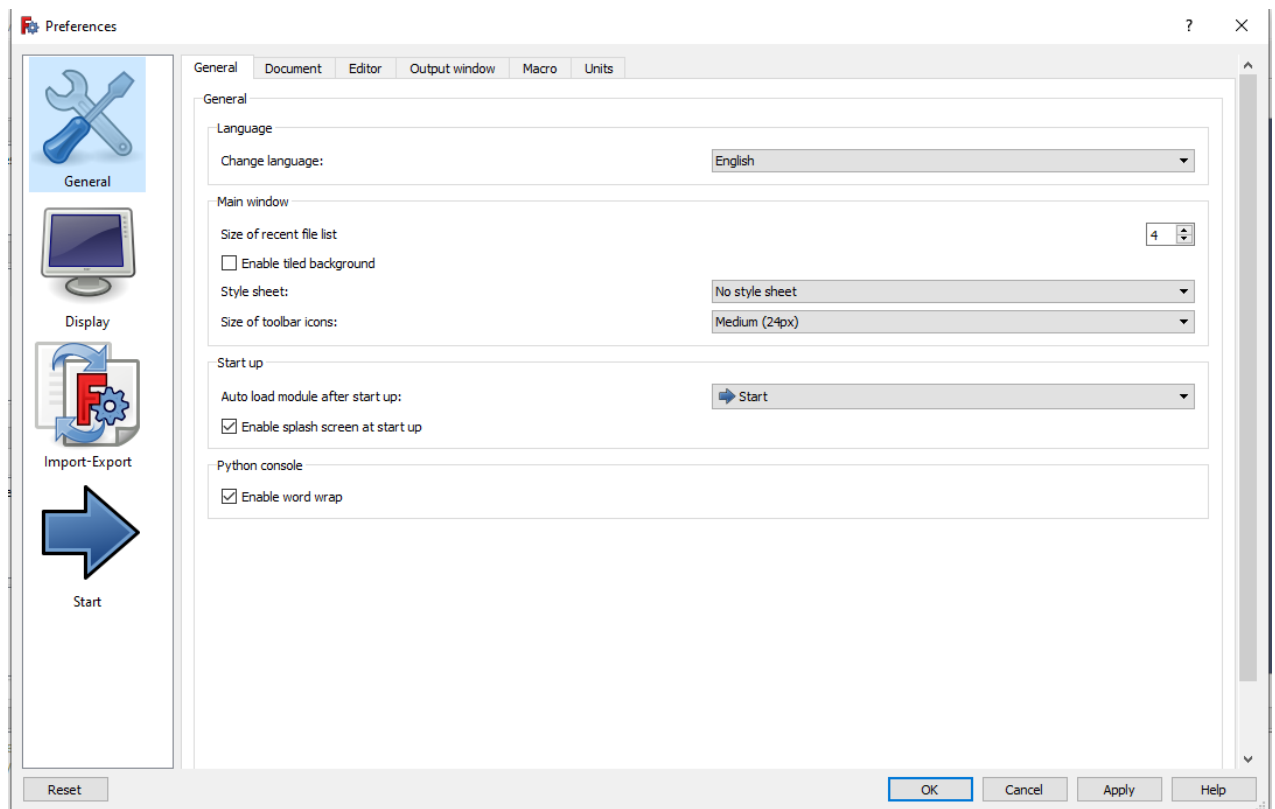

Figure 6 – Working with an option **General**
2. Select **General** in the appeared window (Figure 6):